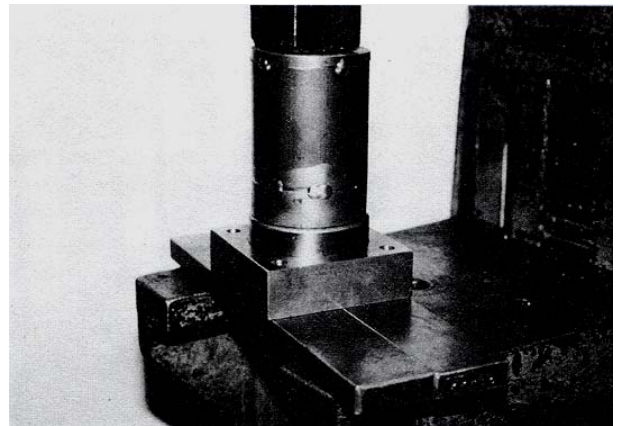

FIGURE 48
10) Clean the outside diameter of the replacement bearing. Apply a suitable amount of anaerobic adhesive/sealant to the outside diameter of the bearing. Align and press the replacement bearing into the bearing housing until it seats itself against the flange. FIGURE 48.